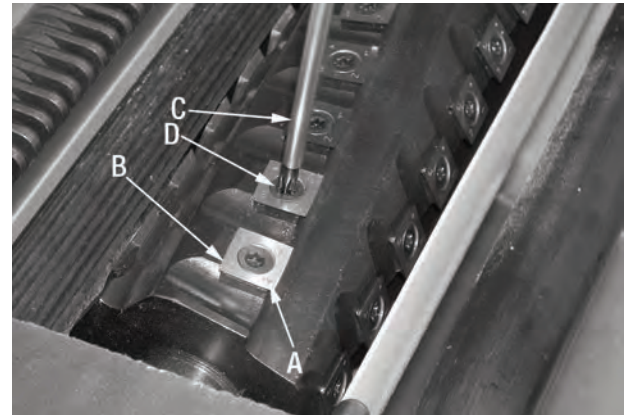

FIGURE 14
2. Note the position of the reference number (A) Fig.14 on each cutter insert (B). Using the T25 Torx bit screwdriver (C), loosen and remove cutter insert screw (D) by turning counterclockwise.